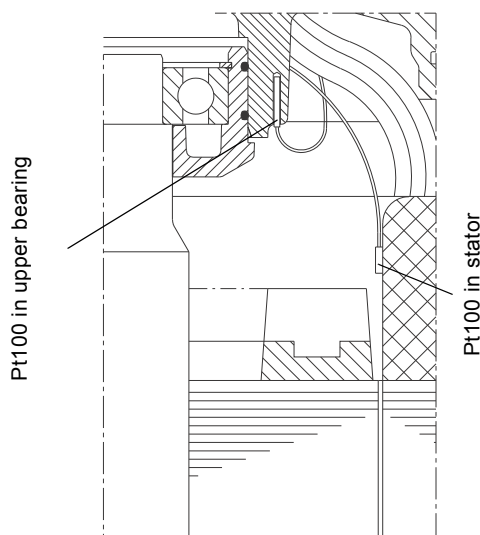

Fig. 19 Pt100 in upper bearing and in stator
1. Cut the wire of the Pt100 sensor right next to sensor and remove the wire. See fig. 19.
2. Leave the old sensor on the stator (48).